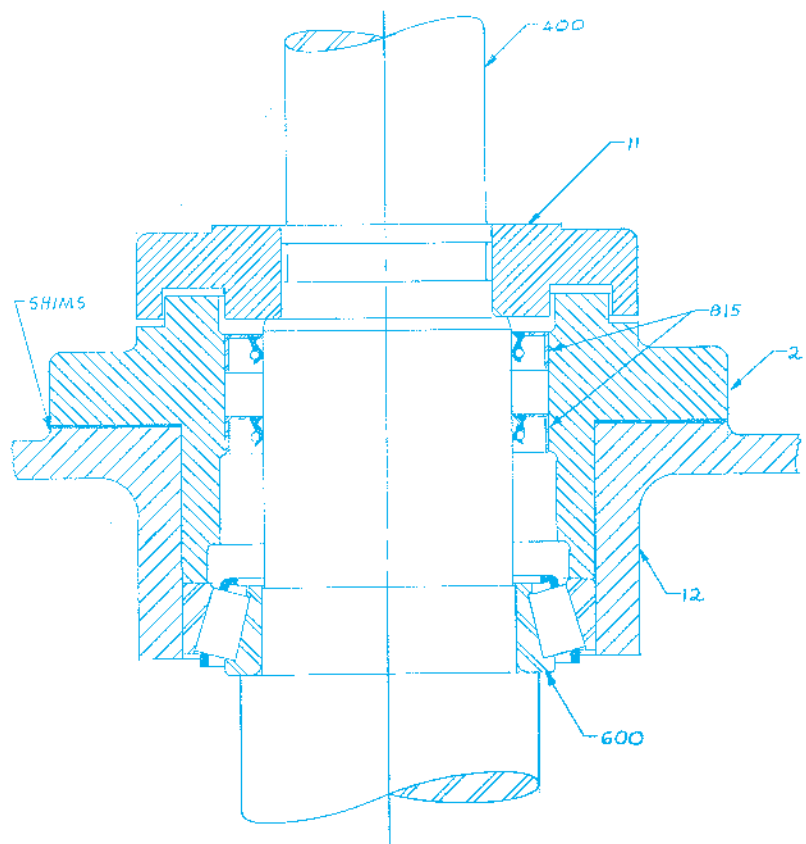

FIGURE 12
- 1.0 Refer to Figure 12 during installation.
- 2.0 Install seals (815) in the vertical seal carrier (21) so the springs will be toward the gear drive.
- 4.0 Install the vertical seal carrier (21) on the cover (12). **Make sure** the match marks on the seal carrier and the cover are aligned.
- 6.0 Apply a film of grease to the journal for the upper seal plate (11).
- 7.0 Install the upper seal plate (11) and tighten the set screw. Wipe off any grease that may have pushed out around the upper seal plate (11).